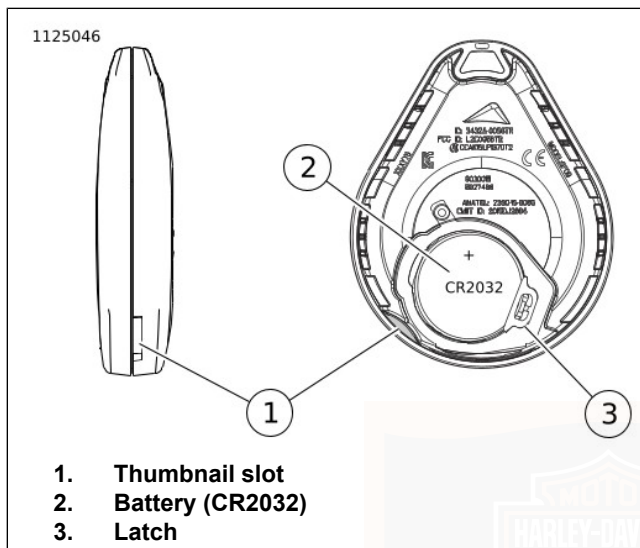

Figure 15. Replace Fob Battery
- See Figure 15. The serial number of the fob is also found on the inside of the fob.
1. See Figure 15. To open the fob, turn a thin blade in the slot (1).
2. Remove the battery (2) and discard in accordance with local regulations.